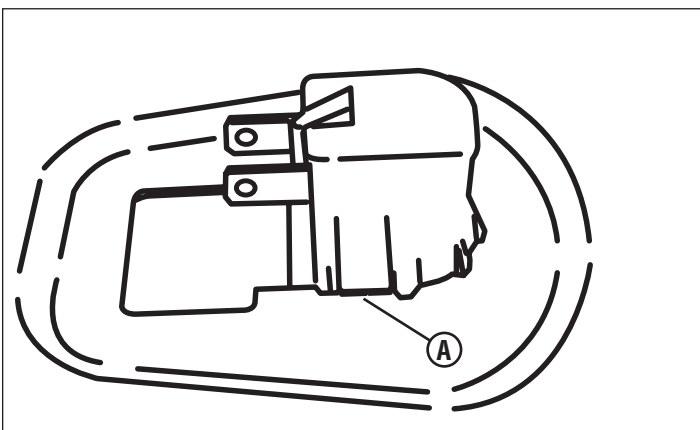

Figure 13
- C. Make sure both tabs (A, Figure 13) are locked to the outside edge of hole.